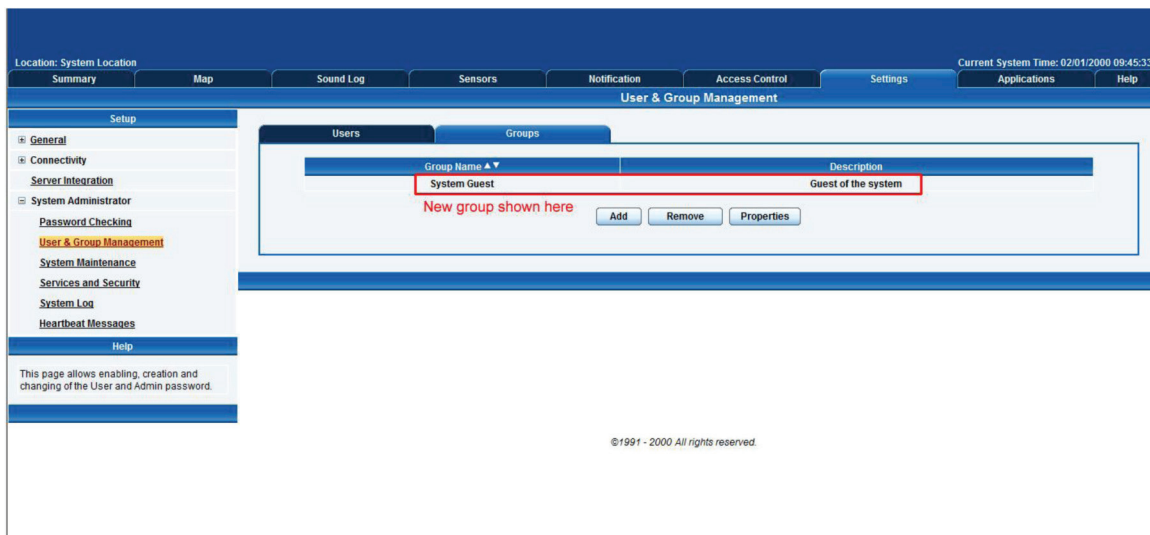

Figure 3-16. System Guest group added.
7. The new group “System Guest” has been added to our group list as shown in Figure 3-16.